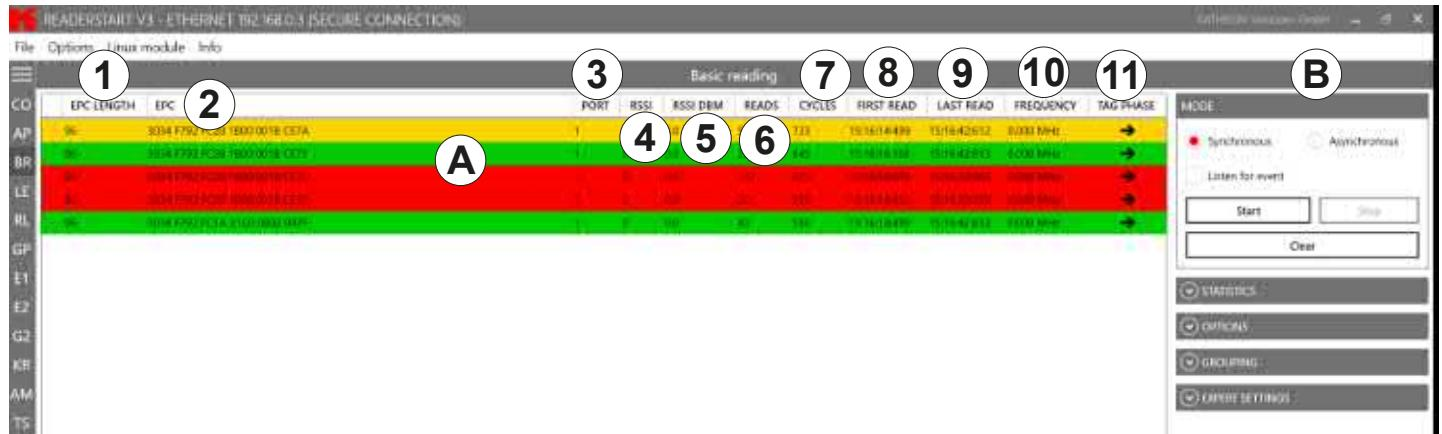
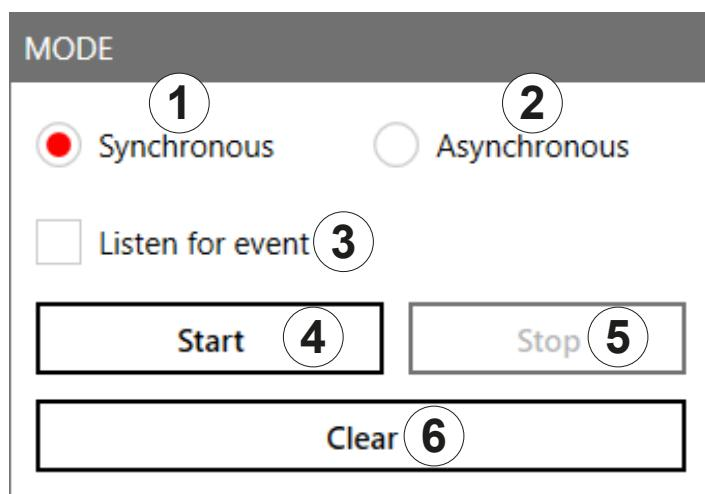

Fig. 41: Basic reading
Fig. 42: Basic reading: mode
- ▶ Click *Start* (④ in Fig. 42) to start the reading.
- ▶ Click *Stop* (⑤) to stop the reading.
- ▶ Click *Clear* (⑥) to remove all tag entries from the table (④ in Fig. 41, p. 81).